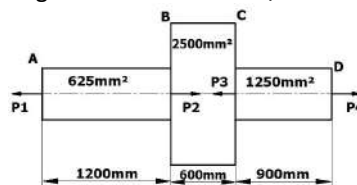

Figure 3
19. A member ABCD is subjected to a pointloads P_1, P_2, P_3 & P_4 as shown in **Figure 3**. calculate the force P_2 necessary for equilibrium. if $P_1 = 45 \text{ kN}$, $P_3 = 450 \text{ kN}$ & $P_4 = 130 \text{ kN}$. Determine stresses in each member also determine the total elongation of the member assuming the E to be $2.1 \times 10^5 \text{ N/mm}^2$.